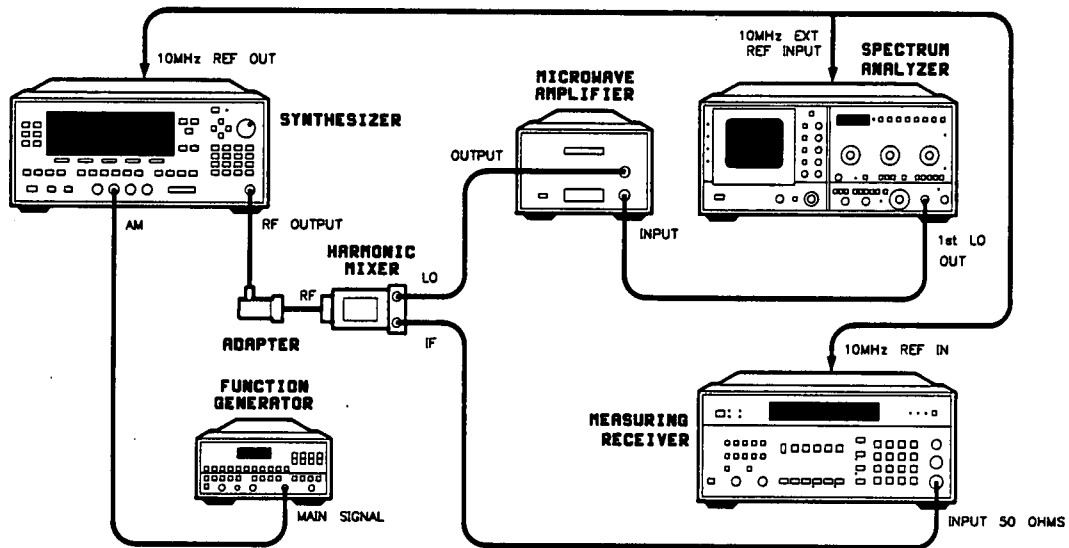

Figure 2-22. AM Accuracy Test Setup > 20 GHz
14. Connect the equipment as shown in figure 2-22.